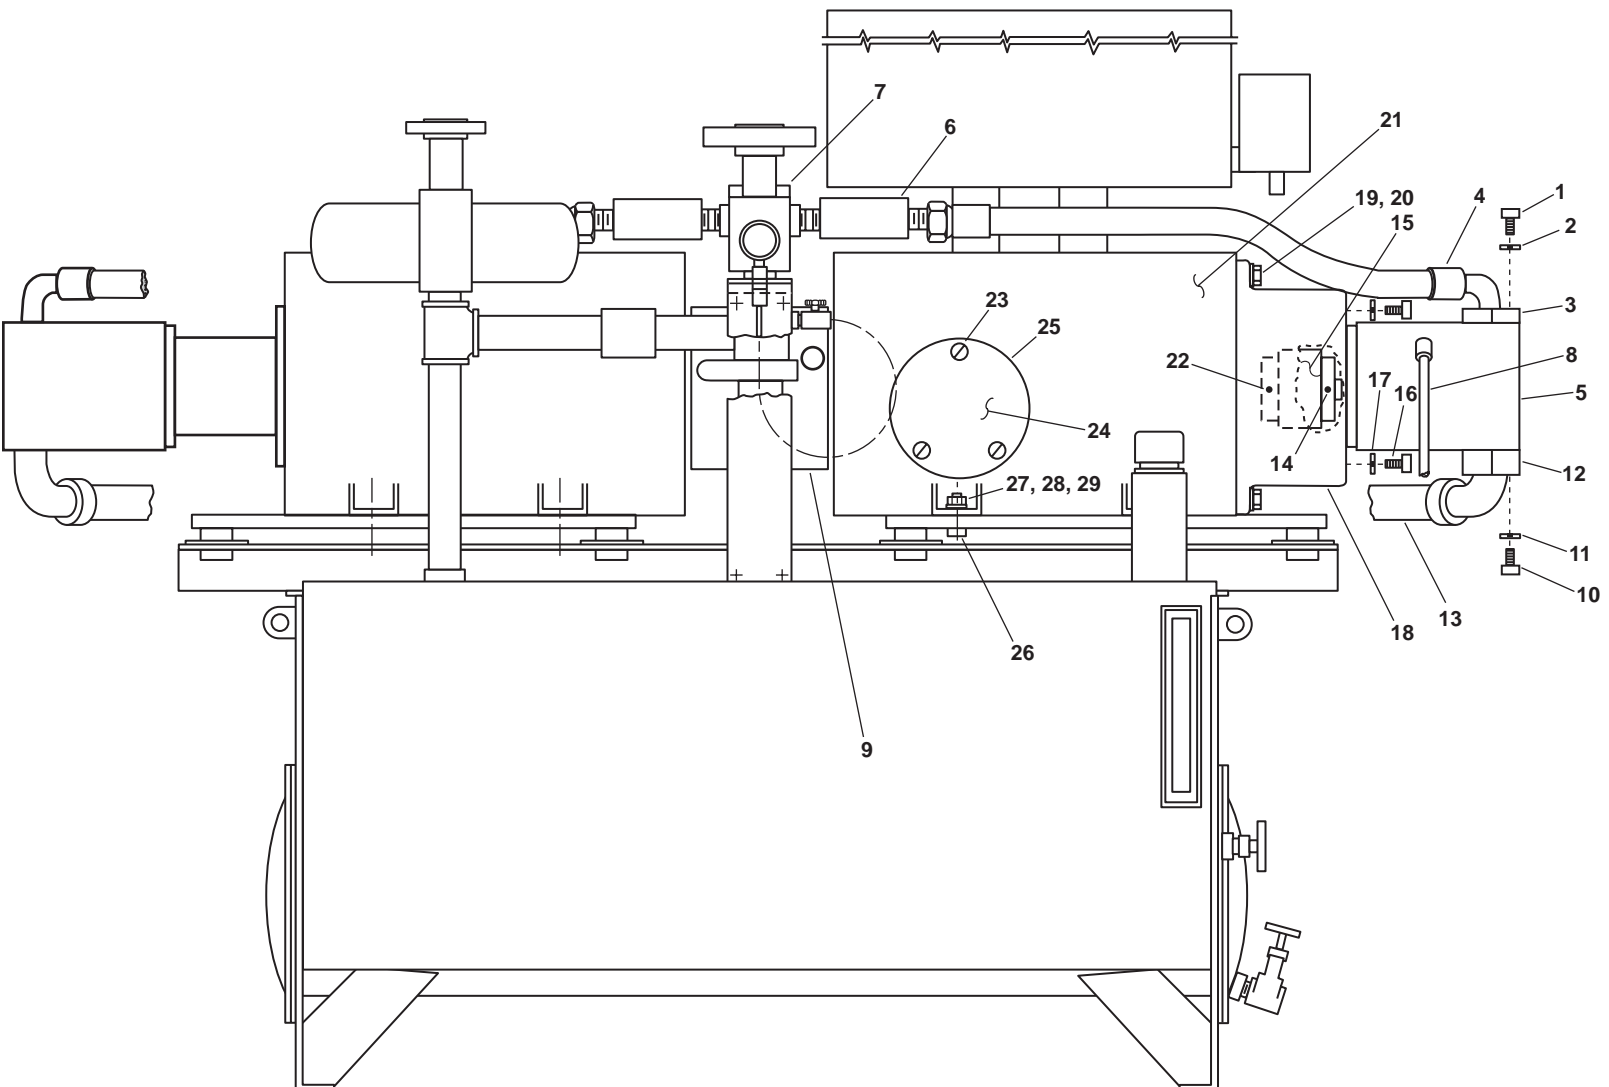

Figure 1. Motor Replacement
2. Remove the four bolts (figure 1, item 1), four lockwashers (figure 1, item 2), and two clamps (figure 1, item 3) securing the discharge hose (figure 1, item 4) to the hydraulic pump (figure 1, item 5). Discard the lockwashers.
3. Remove the discharge hose (figure 1, item 4) and check valve (figure 1, item 6) as an assembly from the manifold (figure 1, item 7). Plug the manifold to prevent contamination of the hydraulic system.
4. Disconnect the drain line (figure 1, item 8) from the hydraulic pump (figure 1, item 5).
5. Disconnect the opposite end of the drain line (figure 1, item 8) from the oil cooler (figure 1, item 9). Set aside the drain line and plug the oil cooler to prevent contamination of the hydraulic system.
6. Remove the four bolts (figure 1, item 10), four lockwashers (figure 1, item 11), and two clamps (figure 1, item 12) securing the suction hose (figure 1, item 13) to the hydraulic pump (figure 1, item 5). Discard the lockwashers.
7. Remove the set screw (figure 1, item 14) from the drive coupling (figure 1, item 15).
8. Support the hydraulic pump (figure 1, item 5) with the lifting sling and chain hoist.
9. Remove the two bolts (figure 1, item 16) and two lockwashers (figure 1, item 17) securing the hydraulic pump (figure 1, item 5) to the mounting bracket (figure 1, item 18). Discard the lockwashers.
10. Slide the hydraulic pump (figure 1, item 5) from the mounting bracket (figure 1, item 18). The pump half of the drive coupling (figure 1, item 15) will remain inside the mounting bracket.
1. Use a chain hoist and lifting sling to slide the hydraulic pump (figure 1, item 5) into the drive coupling (figure 1, item 15).
2. Secure the hydraulic pump (figure 1, item 5) to the mounting bracket (figure 1, item 18) with two bolts (figure 1, item 16) and two new lockwashers (figure 1, item 17). Do not tighten the bolts at this time.
3. Perform the Alignment procedure in this work package. The bolts (figure 1, item 16) and set screw (figure 1, item 14) will be tightened during the Alignment procedure.
4. Place a new O-ring in the end of the suction hose (figure 1, item 13) and connect the suction hose to the hydraulic pump (figure 1, item 5) with four bolts (figure 1, item 10), four new lockwashers (figure 1, item 11), and two clamps (figure 1, item 12).
5. Position the drain line (figure 1, item 8) and secure it to the oil cooler (figure 1, item 9) and the hydraulic pump (figure 1, item 5).
6. Install the check valve (figure 1, item 6) and discharge hose (figure 1, item 4) assembly into the manifold (figure 1, item 7).
7. Place a new O-ring in the end of the discharge hose (figure 1, item 4) and secure it to the hydraulic pump (figure 1, item 5) with four bolts (figure 1, item 1), four new lockwashers (figure 1, item 2), and two clamps (figure 1, item 3).
2. Remove the four bolts (figure 1, item 19) and four lockwashers (figure 1, item 20) that secure the mounting bracket (figure 1, item 18) to the motor (figure 1, item 21). Remove the mounting bracket. Discard the lockwashers.
3. Remove the set screw (figure 1, item 22) from the motor half of the drive coupling (figure 1, item 15). Slide the drive coupling from the motor (figure 1, item 21).
4. Remove the three screws (figure 1, item 23) securing the junction box cover (figure 1, item 24). Remove the junction box cover.